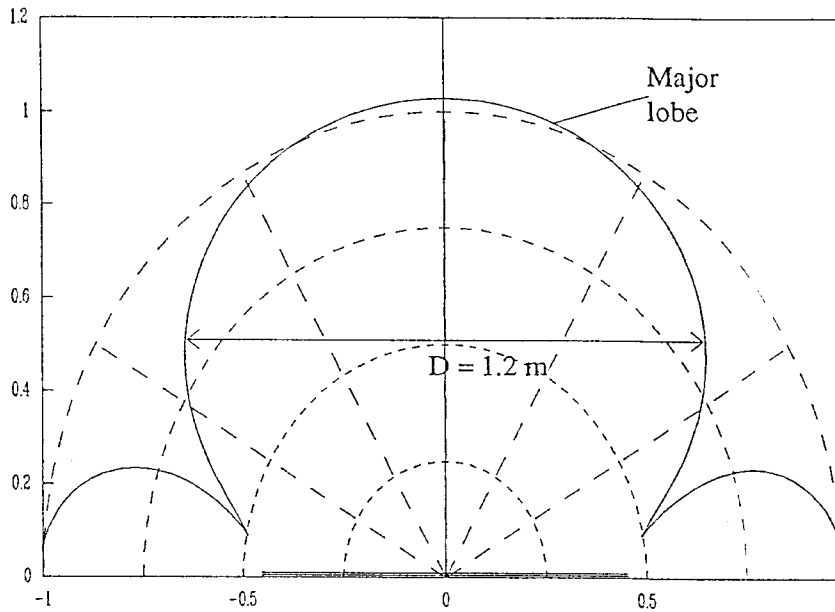

Figure 11: Maximum transponder speed
For applications when the transponder to be read is moving, the readout length is important (see D on figure 11). You can calculate the worst case maximum speed of the transponder past the antenna. This is based on the dimension of the major lobe as shown in figure 11.
2. Make an intersection at the place where the transponder crosses the major lobe. Determine the distance between the 5 Volt boundaries of the major lobe (D on figure 11).
Example: (Refer to figure 11) Antenna is G03C,